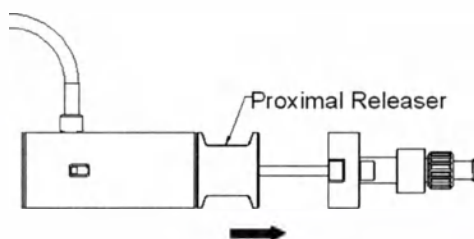

Fig. 8 Pull the Proximal Releaser
- ✧ Pull the Proximal Releaser to release the proximal spring of the stent graft. (Fig. 8)